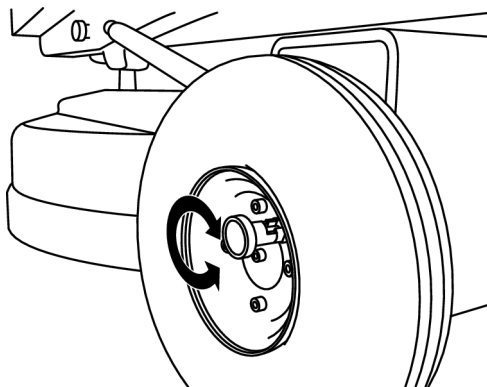

Figure 4-4. Turn 90 degrees
2. Turn the locking pin 90 and release it for the secured position, see Figure 4-4, page 19.